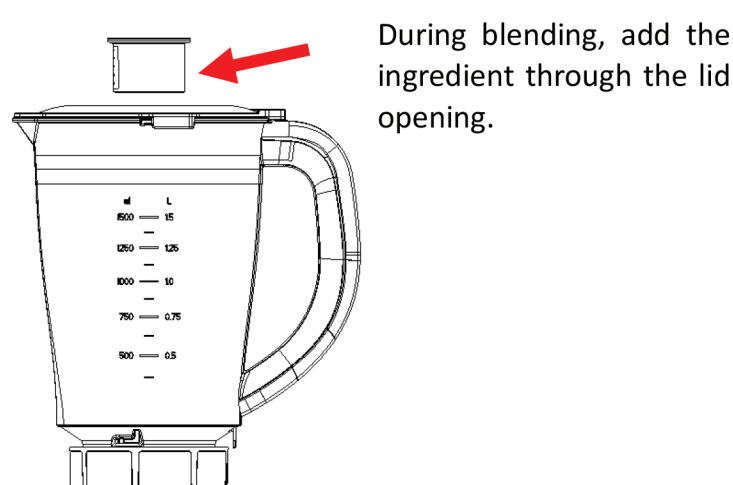

Fig.7
- If you want to add ingredients while the blender is working, remove the measuring cup and place through the lid opening. (See Fig.7)